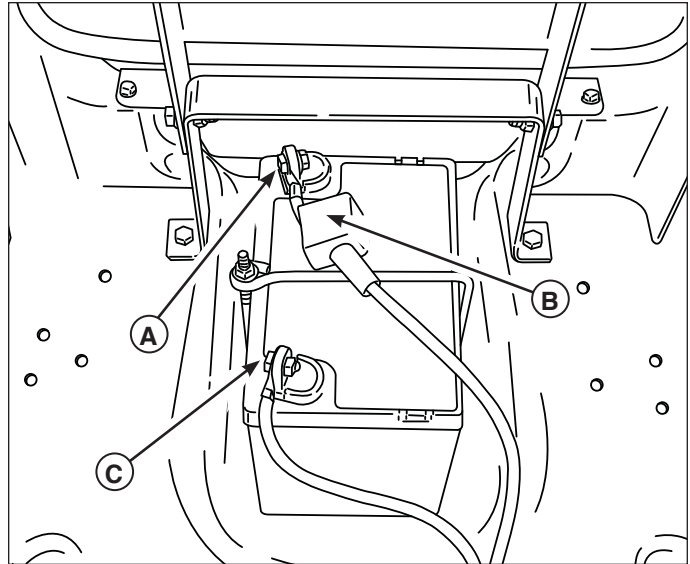

Figure 21. Battery Compartment
1. Disconnect the cables from the battery, negative cable first (C, Figure 21).
3. Reinstall the battery and reattach the battery cables, positive cable first (A).
5. Be sure to replace the terminal cover (B) over the positive battery terminal.